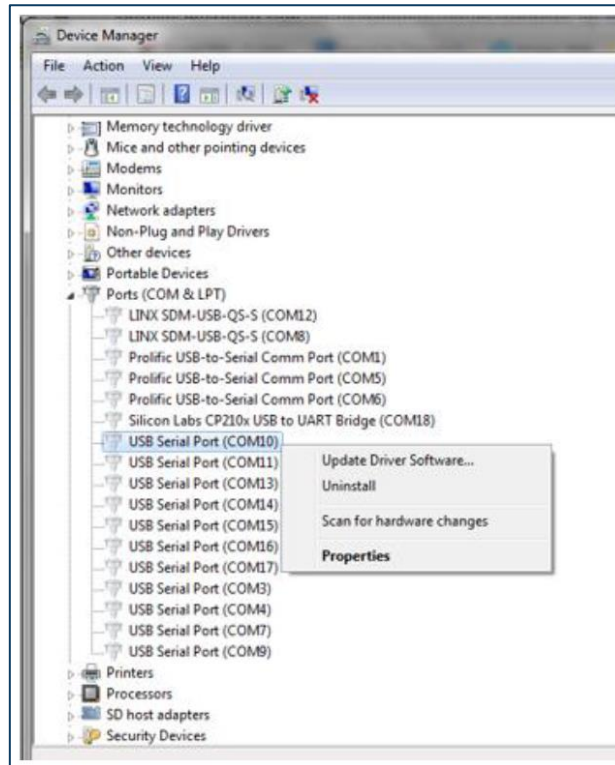

Fig. 24 – COM port uninstall
4. If you expand the section on COM ports, all the COM ports that have ever been created will be displayed, the non-present ones being in gray. You can uninstall anything that you don't want (right click, select **Uninstall**). See *Figure 24*.